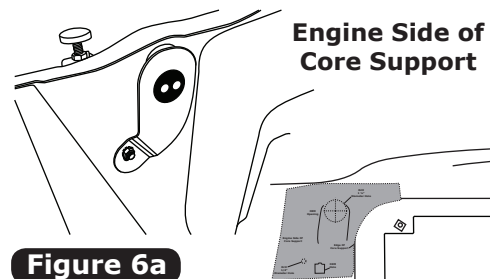

Figure 6a
2. Install the hardline support bracket onto the engine side of the core support using a 1/4-20 x 1/2" hex bolt, a 1/4" flat washer, and a 1/4-20 nut with star washer as shown in Figure 6a, below.
3. Insert the grommet into the hardline support bracket as shown in Figure 6a, below.
3. Install the hardline support bracket onto the engine side of the core support using a 1/4-20 x 1/2" hex bolt, a 1/4" flat washer, and a 1/4-20 nut with star washer as shown in Figure 6a, below.
4. Insert the grommet into the hardline support bracket as shown in Figure 6a, below.